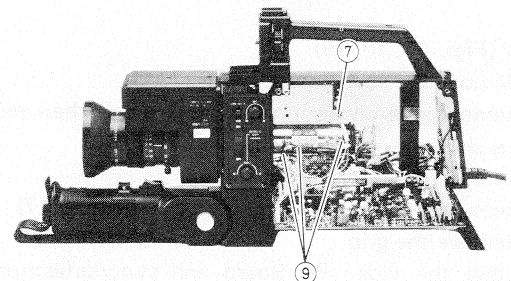

Fig. 24
7. Remove connector P001 (Fig. 24).
9. Remove the black leads soldered to the deflection coil (Fig. 24).